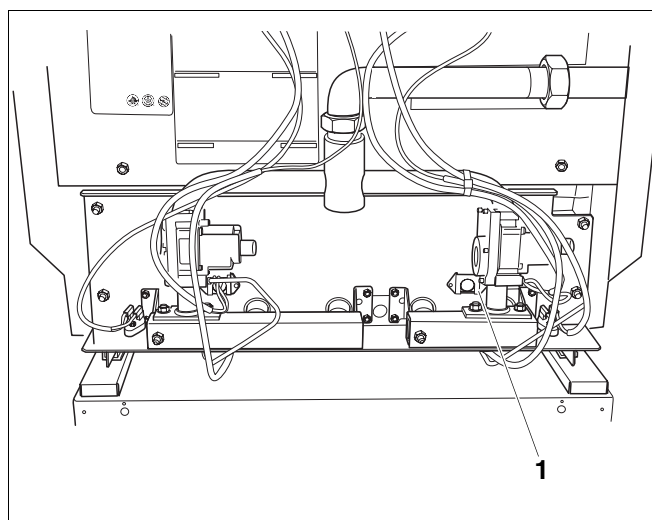
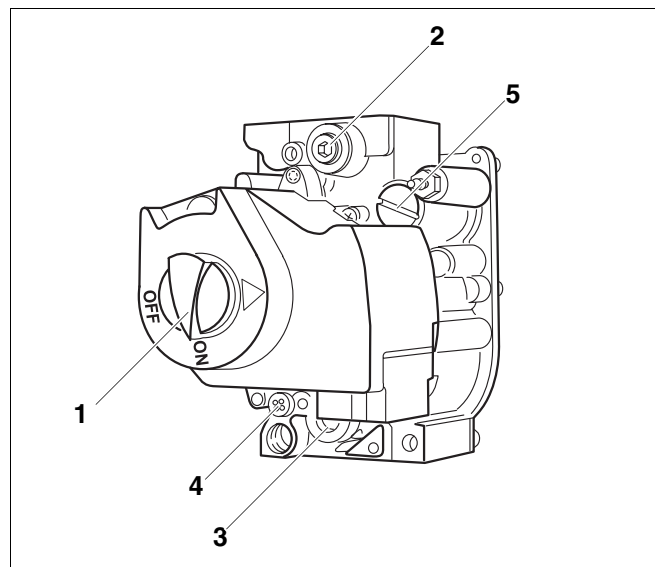

Fig. 27 Front view
Fig. 28 Gas valve
13. Check manifold pressure. The manifold pressure must be set in accordance with the values in → Tab. 7. To set the manifold pressure the cover (→ Fig. 28) on the gas valve must be removed. Turn the adjustment screw clockwise to increase the pressure and counterclockwise to reduce the pressure. This setting must be adjusted while the boiler is operating.
14. Record the set value in the commissioning protocol of the installation and maintenance instructions and screw the safety screw (→ Fig. 28) into the gas valve again.
15. Observe pilot flame through the sight glass (→ Fig. 27, page 32) in the burner housing.
The adjustment screw is behind the ignition gas pressure adjustment safety screw (→ Fig. 28, page 33).
18. Remove safety screw for pilot pressure setting (→ Fig. 28, page 33). Turn the inner adjustment screw clockwise to reduce the pilot flame and counterclockwise to enlarge the pilot flame.
19. After adjustment tighten the pilot gas pressure adjustment safety screw (→ Fig. 28, page 33) again.
20. Observe main burner flame through the sight glass (→ Fig. 27, page 32) in the burner housing. The flame must have a steady and fixed contour and generally has a bluish color. If the main burner flame meets the requirements, proceed with step 21. If the main burner flame is too weak or is yellow or goes out, turn the ON/OFF switch (→ Fig. 28, page 33) on the gas valve clockwise to OFF. Close the gas shut-off valve and disconnect the heating system from the power supply and contact the customer service technician or the gas company.